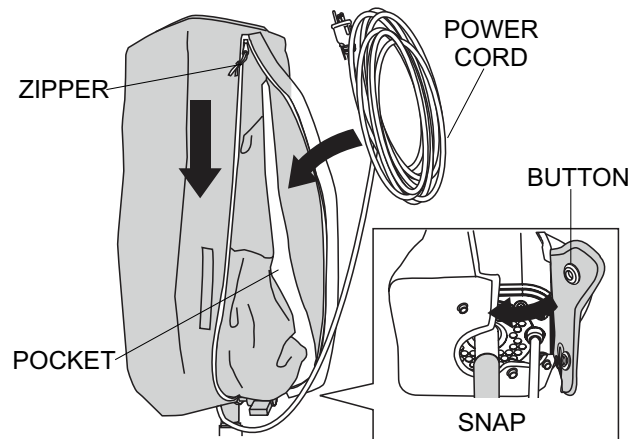

Figure 20. Zipping the Protective Cover
4. Store the power cable inside the pocket of the protective cover (Figure 20). Zip up the protective cover and snap the buttons on the bottom of the protective cover.